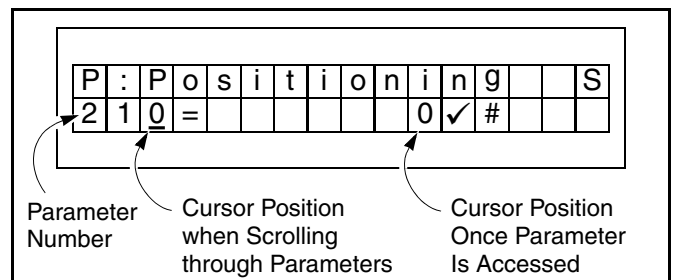

Figure 29
- Press the reset (●) key to access the displayed parameter. The parameter is accessed when the cursor jumps over to the currently saved value for that parameter. (See Figure 29.)